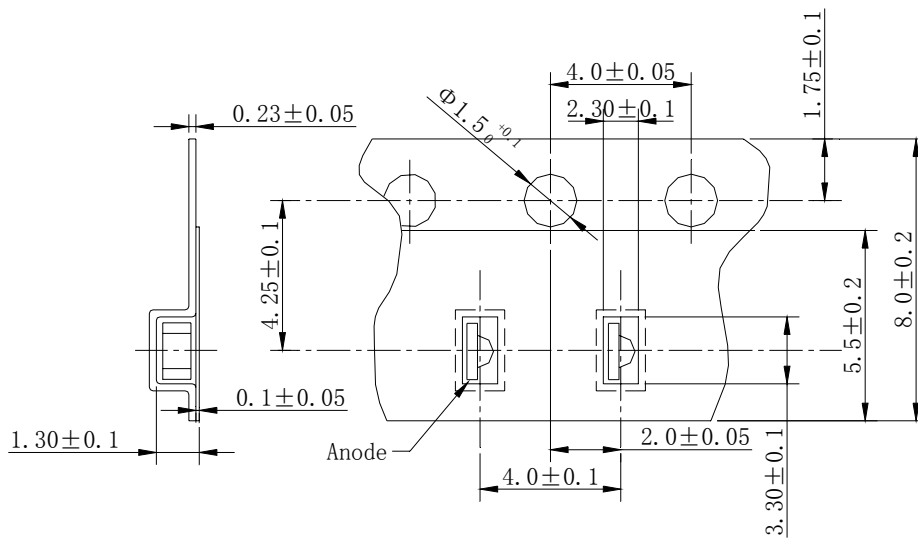

Fig.2
4) Loaded quantity per reel: 3, 000pcs (Fig.2)